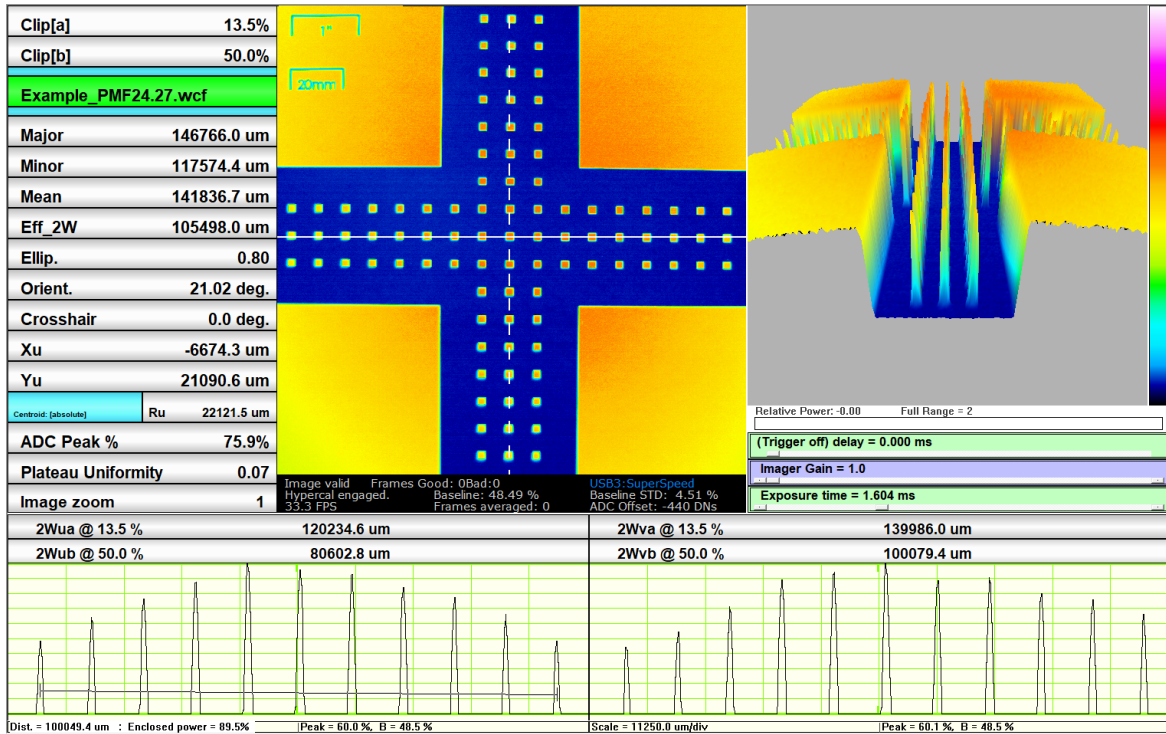

Figure 4: Shown here in the bottom-left X profile is a measurement across 10 centimeters *after the correct PMF has been set.*
- Press **Xu** in the toolbar and move the crosshairs to an appropriate position so that the grid markings can be viewed in the horizontal or vertical profile as shown in Figure 4. Center and expand the ripples and measure the pitch P in microns across 10 of the peaks or valleys (100000 microns). Your measurement will be some fraction of 100000 depending on the lens magnification at your object distance. If you did not set the PMF to 1 for calibration and the PMF is already calibrated, this measurement should be close to 100000 microns.